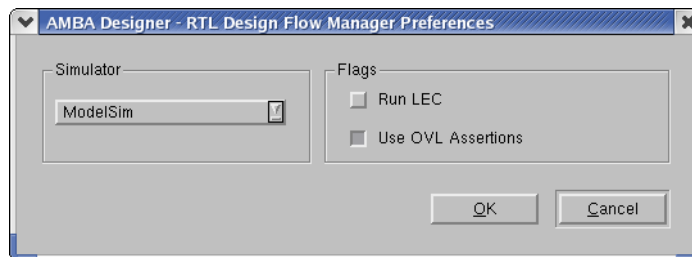

Figure 8-9 Enabling OVL assertions
2. Select the **Use OVL Assertions** check box in the Flags panel, to enable simulation with OVL assertions, as Figure 8-9 on page 8-10 shows.
2. If you require *Logical Equivalence Checking* (LEC) to be performed during synthesis then you must ensure that the **Run LEC** check box is selected in the Flags panel, as Figure 8-9 on page 8-10 shows.